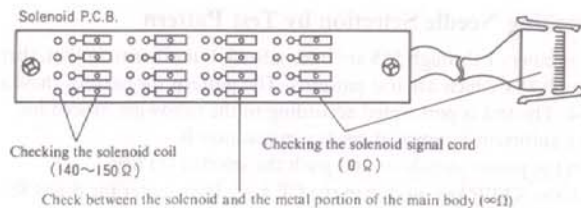

Figure 9-3
- ③ Disconnect the needle selector solenoid unit (refer to on P.45 item 11). Check the resistance values of the places which correspond to the solenoids on the solenoid PC board which were found to be bad. The resistance value of the solenoid coil should be between 140 - 150 Ω , the resistance value of the solenoid signal cord should be 0 , and the resistance value of the metal portion of the main body and the solenoid should be $\infty\Omega$ (refer to figure 9-3).